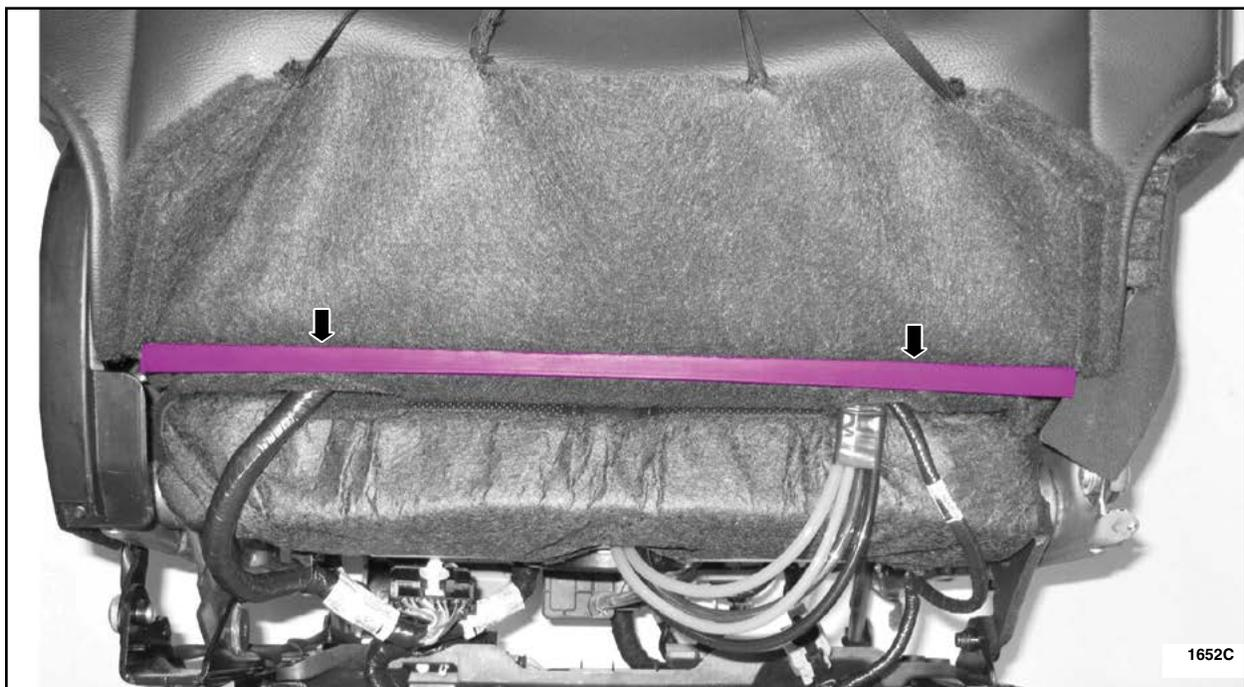

FIGURE 3
3. Detach the backrest cover lower J-clip. See Figure 3.